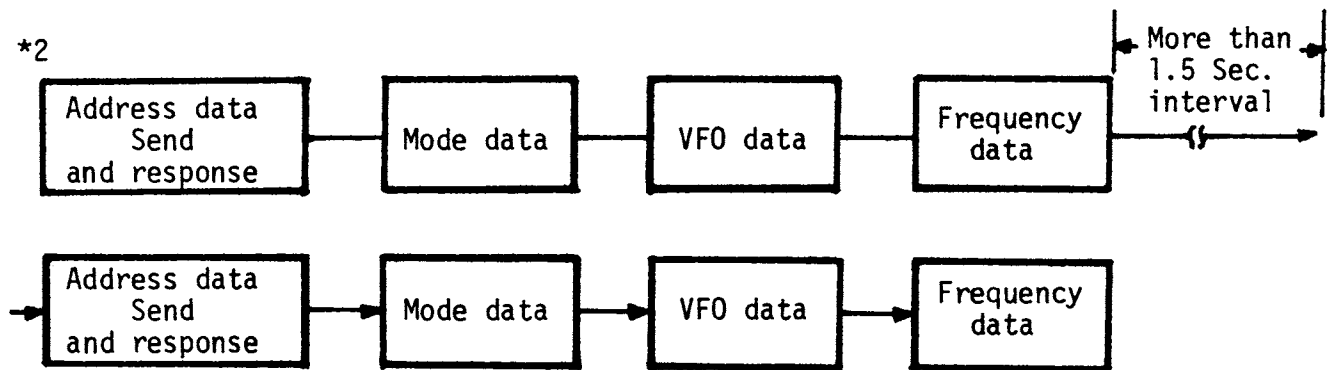

Fig. 17
- Apply +5 volts to pin #18 (RC) on the ACC plug for remote operation.
16) Send address and frequency data twice from the remote controller to the transceiver if changing frequency on a different band. (See Fig. 17)